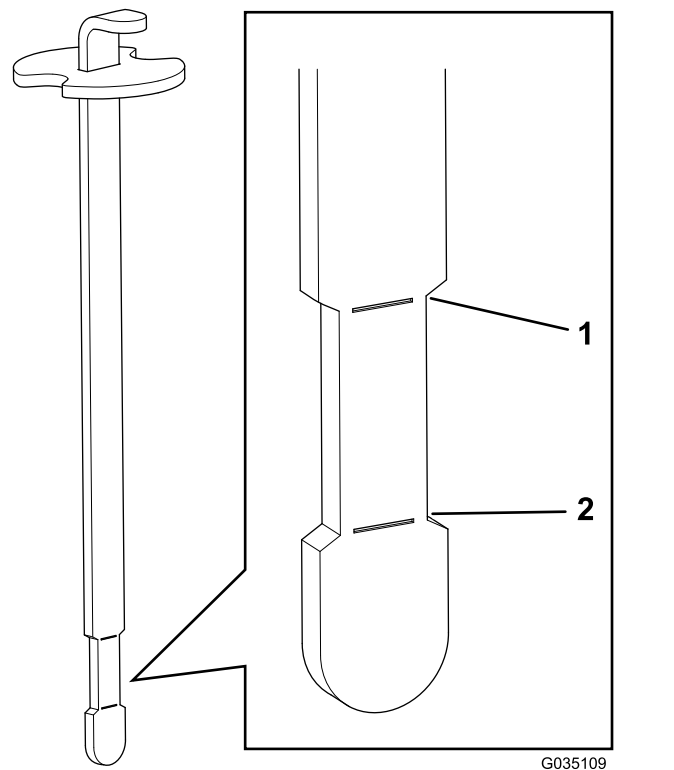

**Figure 16**
- Mobil EAL EnviroSyn H 46 (US)
2. Clean the area around the hydraulic-reservoir cap to prevent debris from entering the tank (Figure 16).